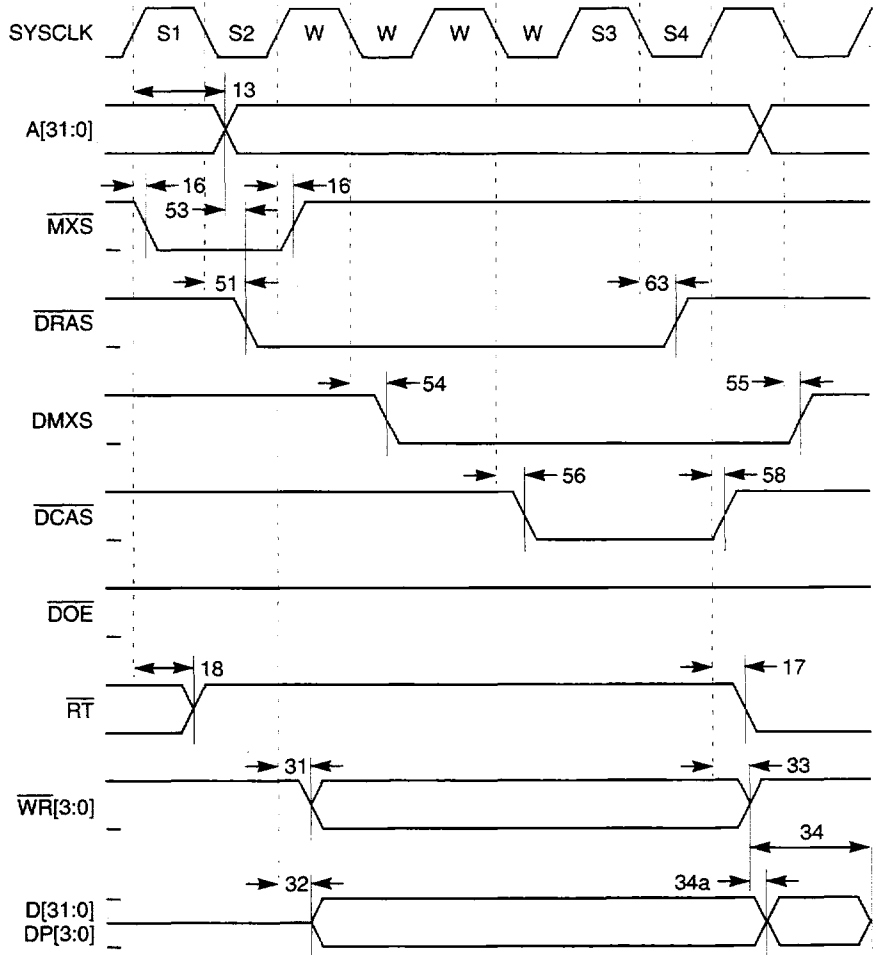

Figure 11
- ◆ DRAM Block Fetch Timing (Figure 11)